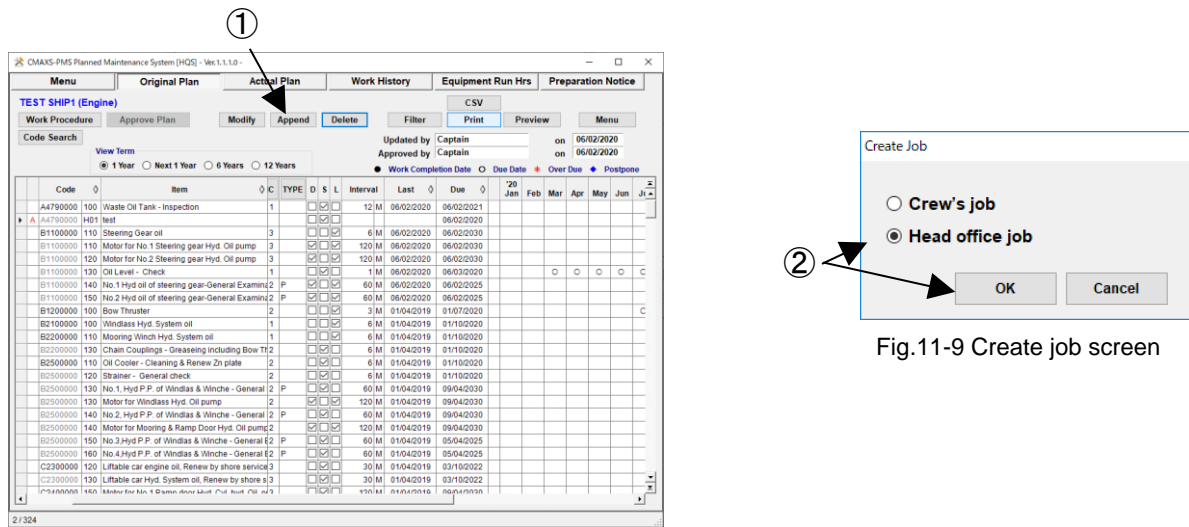

Fig.11-8 Original Plan screen
- (1) If you want to add a Head office job, select the Append button on the Original Plan Screen (Figure 11-8).